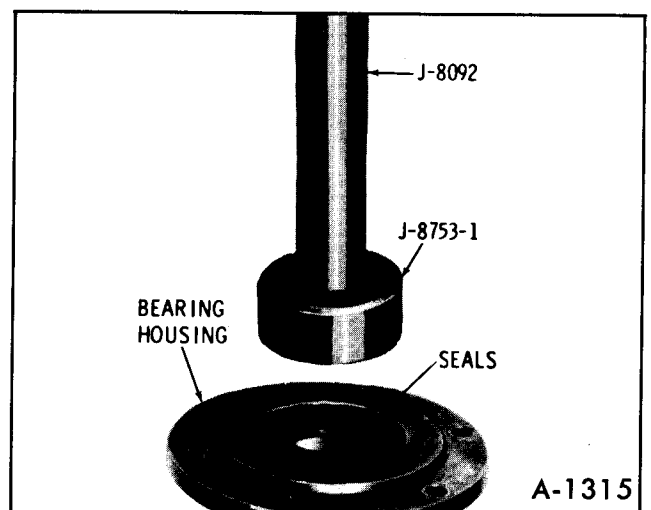

Figure 27—Removing Oil Seals From Pinion Bearing Housing
15. Remove the two oil seals from the pinion bearing housing as shown in Figure 27.